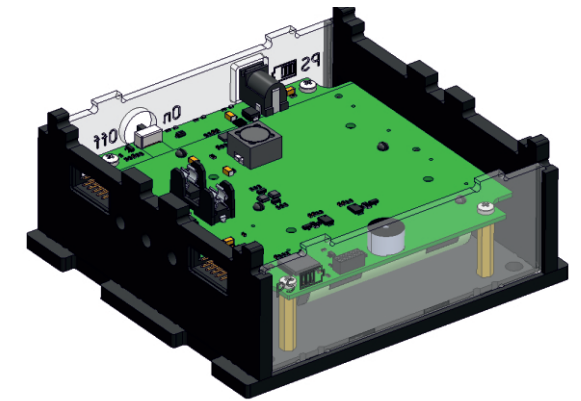

Fig. 8: Mounting the second panel
7) Secure the second transparent panel on the bottom base plate. To do that, slide the panel along guide rails in walls until it touches the bottom base plate, then latch it (Fig. 8):